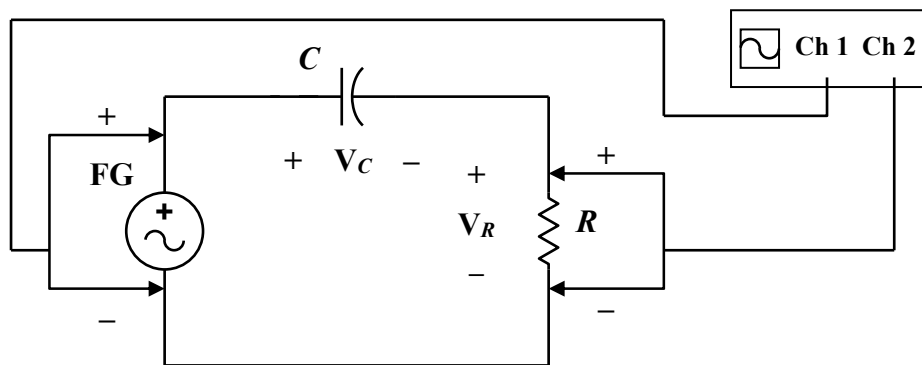

Figure 10.8
20. Switch the positions of the resistor and capacitor so that the resistor is the output (**Figure 10.8**). Using two channels on the oscilloscope, measure the phase ϕ_R of the output (resistor) voltage with respect to the input (FG) voltage. Record in **Table 10-5**. *Does the resistor voltage lead or lag the input?*
Note: In **Figure 10.8**, the FG and resistor share the same ground.